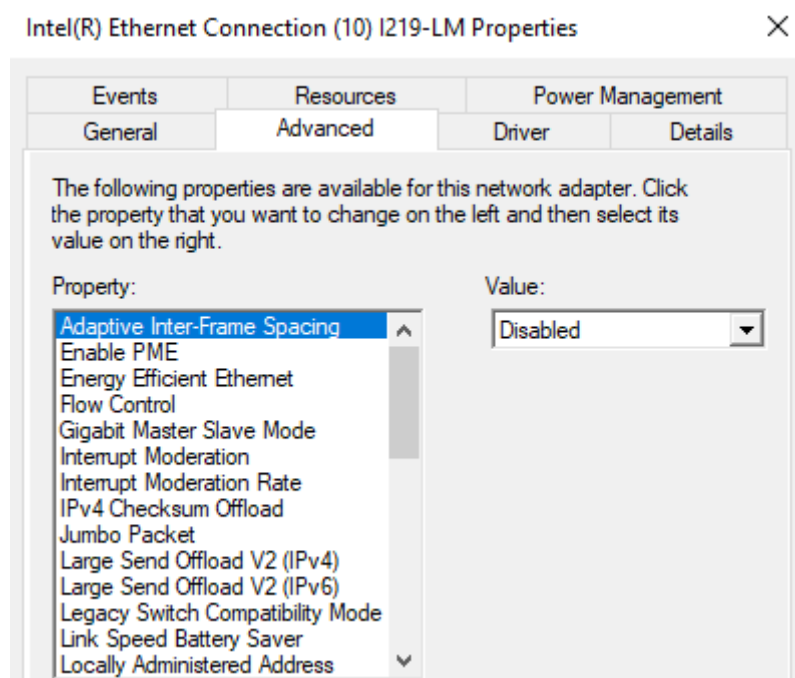

Figure 12: Ethernet adapter setting
- Select the tab "Advanced" (see Figure 12)